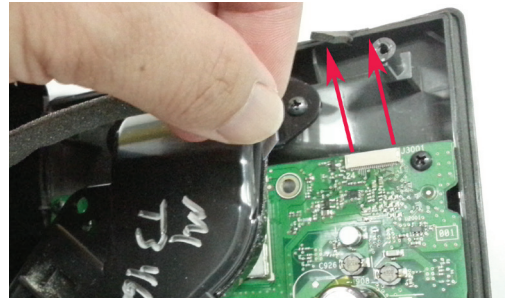

Figure 22. Main PCB, FFC
5.5 Figure 22. Detach the FFC from main PCB.